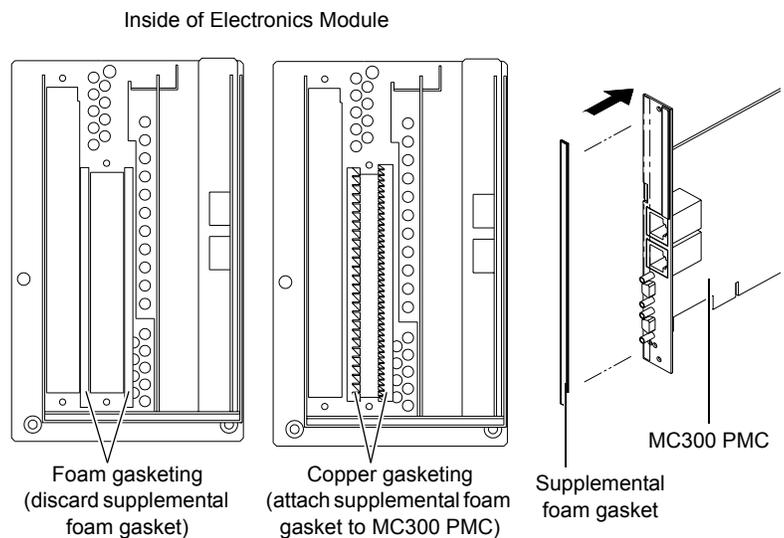

Figure 2 Installing the Gasket on the MC300 PMC
- 8 Inspect the inside of the electronics module to determine whether you need to install the supplemental foam gasket on the MC300 PMC (see figure 2):
- If the electronics module has copper gasketing, remove the adhesive backing from the supplemental foam gasket and attach it to the MC300 PMC (see figure 2).